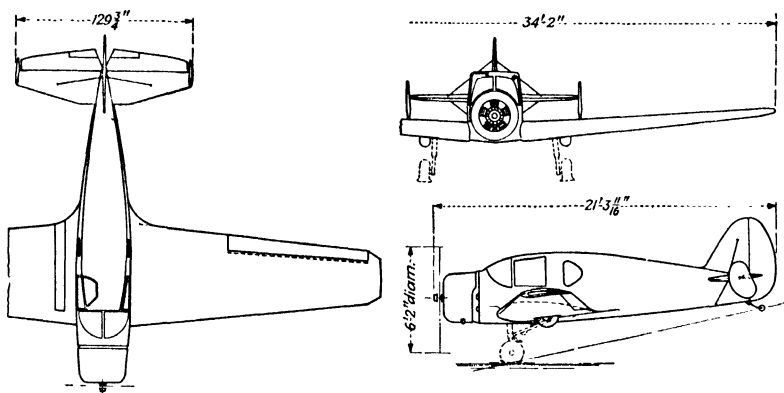

Fig. 19.—Bellanca Cruisair low-wing monoplane. (Courtesy of Aviation.)
11. If 3 Cruisairs were placed wing tip to wing tip, how much room would they need? (See Fig. 19.)
12. If they were lined up propeller hub to rudder, how much room would 5 of these planes need (Fig. 19)?